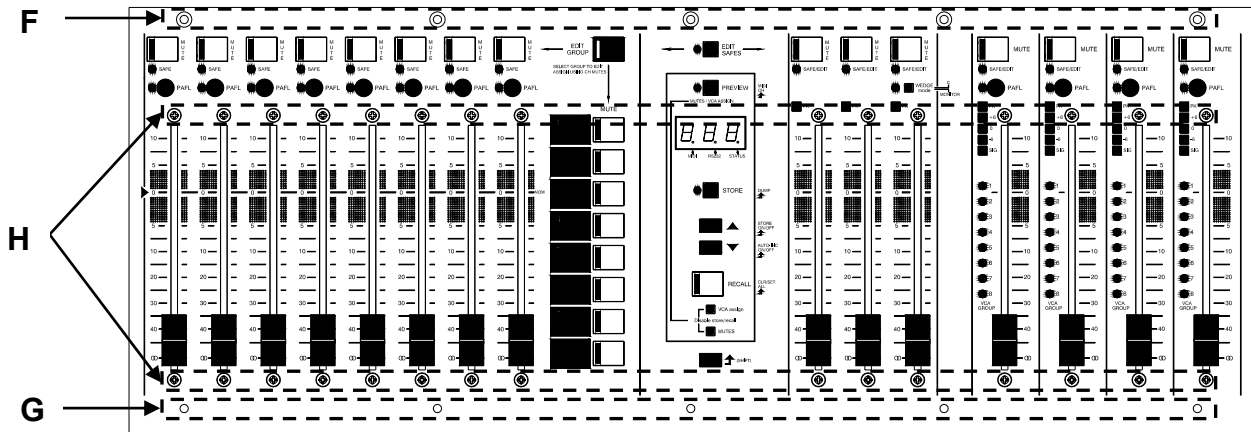

fig.4
Remove the 5x 6Bx3/8 Countersunk Pozi Zinc Screws from the top of the fader panel (F) and the 5x 6Bx3/8 Flange Headed Pozi Black Screws from the bottom of the fader panel, taking care to retain the plastic washers (G) (see fig.4). Carefully tilt the fader panel assembly out from the console and remove all connecting IDC wireforms. The fader panel assembly can now be removed from the console.
- 5) To remove a fader, remove the two relevant M3x5 Countersunk Pozi Screws with underhead pips (**H**) as shown in fig.4. Then unplug the fader wireform from the **Stereo Slave PCB**, the fader can now be removed. De-solder the three fader wireform wires from the fader, taking note of the wire positions for refitting.
- 16) To remove a fader, remove the two relevant M3x5 Countersunk Pozi Screws (**H**) from the Master Fader front panel (see fig.4). Unplug the fader wireform from the **Stereo Slave PCB**, the fader can now be removed. De-solder the three Fader wireform wires from the fader, taking note of the wire positions for refitting.